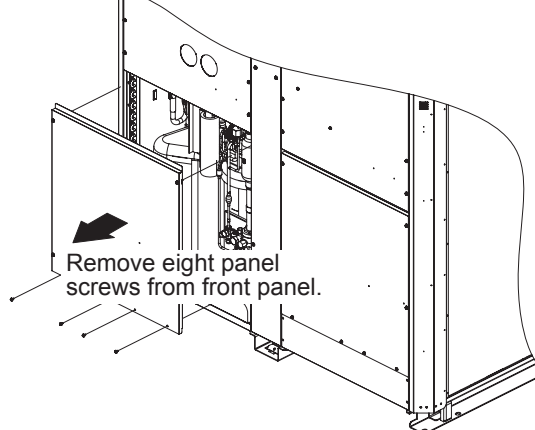

Fig. 2-22b
- The connecting valve is contained inside the unit. Therefore, remove the front panel. (Fig. 2-22b)